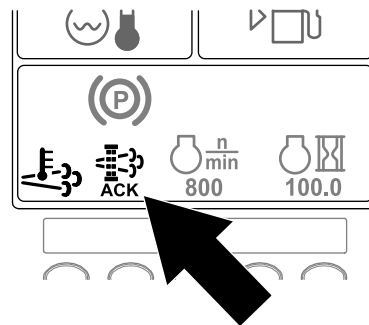

Figure 59
10. The InfoCenter displays the home screen and the regeneration acknowledge icon (Figure 59) appears in the lower right corner of the screen as the regeneration processes.